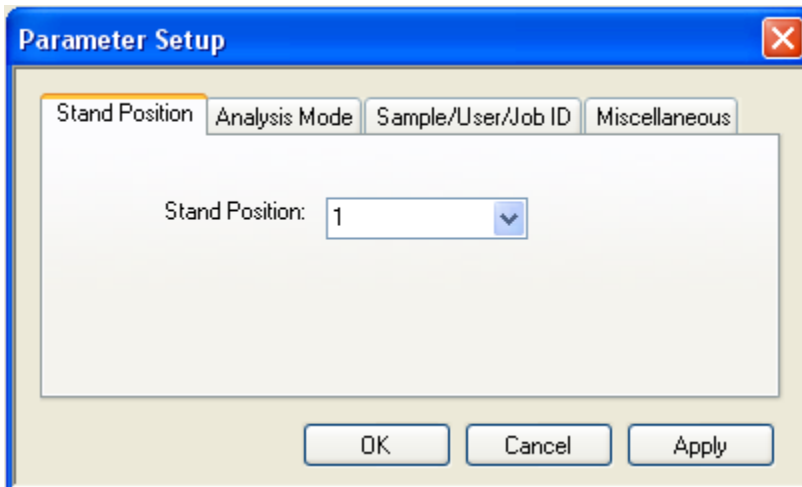

Figure 3-1
Go to the **Tools** pull down menu, select **Parameter Setup**, the **Parameter Setup** window is displayed (Figure 3-1). Use this window option to setup:
1. Select tab **Stand Position** (Figure 3-1)